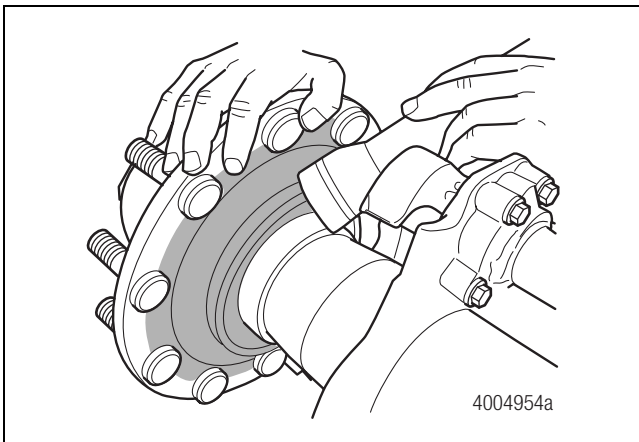

Figure 2.7
1. Check the hub inner grease seal for leakage. A leaking seal will stain the backside of the unitized hub with lubricant, similar to a conventional hub. Figure 2.7.